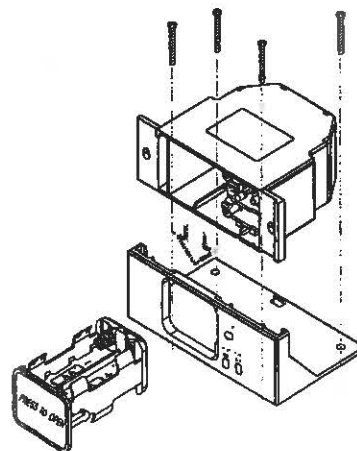

Figure 2
- Slide the Remote Receiver into the fireplace mounting plate. See *Figure 2*.